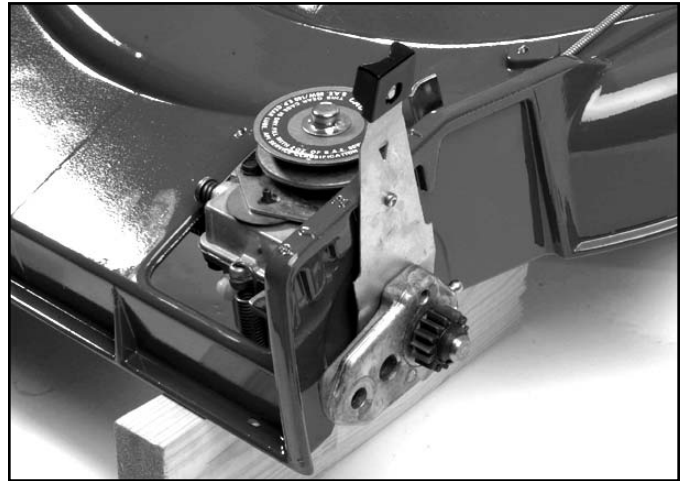

Fig 005
4. Remove both front wheels and wheel covers (Fig. 005).